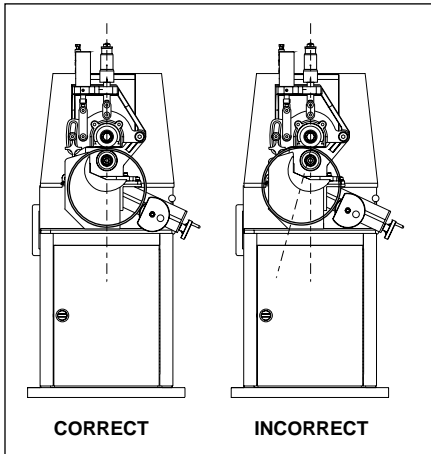

Figure 4
6. Advance stabilizer roller inward with hand-wheel to the position indicated in Figure 4, then tighten locking handle.